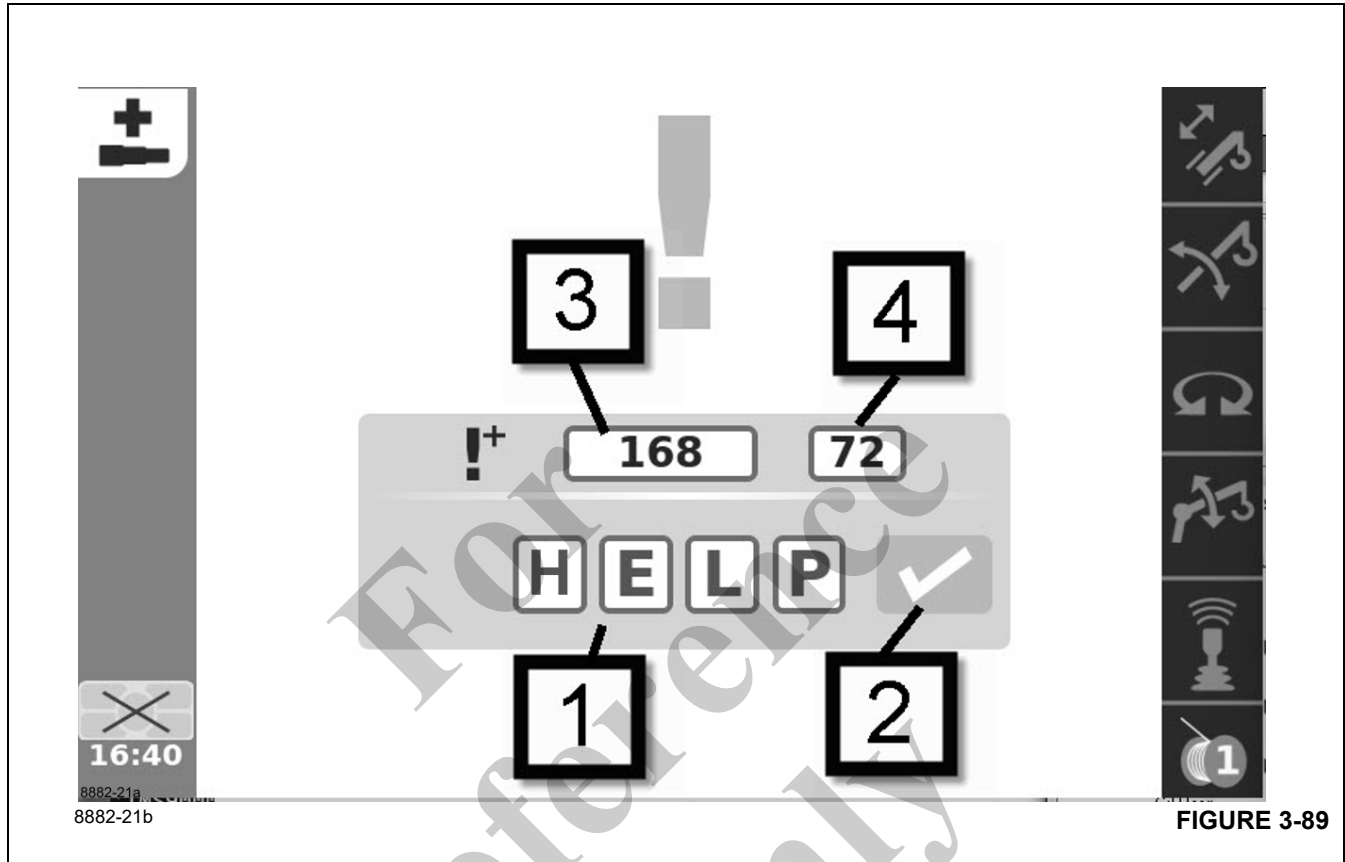

FIGURE 3-89
- Select and confirm the letters H-E-L-P (1), (Figure 3-89) – the screen to access the Telescoping emergency program is opened.
- Confirm the entry with the symbol (2), (Figure 3-89).
Enter a password to open the Telescoping Emergency Program Menu (Figure 3-89).